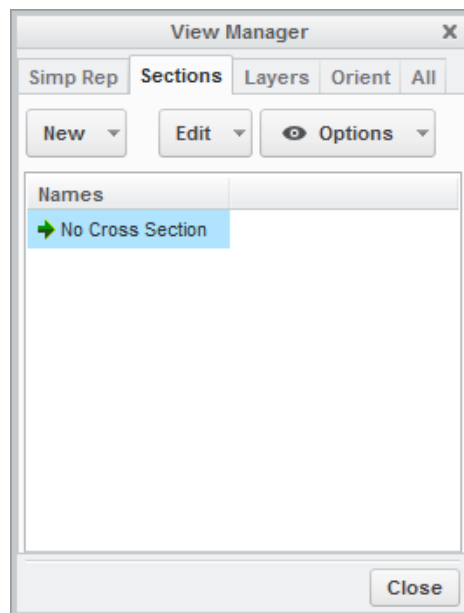

Figure 7: View Manager and Sections tab selected.
1. It is easiest to first define some section views in the 3D modeling mode. Open the part in normal 3D part mode (). Open **View Manager** (), from *Quick Access Toolbar*. Go to the **Sections** tab (Figure 7).